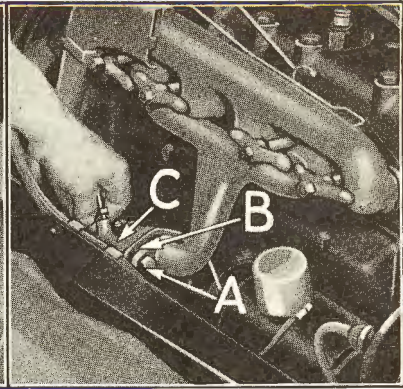

Fig. 441
- (a) Insert the two carburetor flange bolts through inlet pipe (See "A" Fig. 441) placing carburetor flange gasket "B" over ends of bolts.